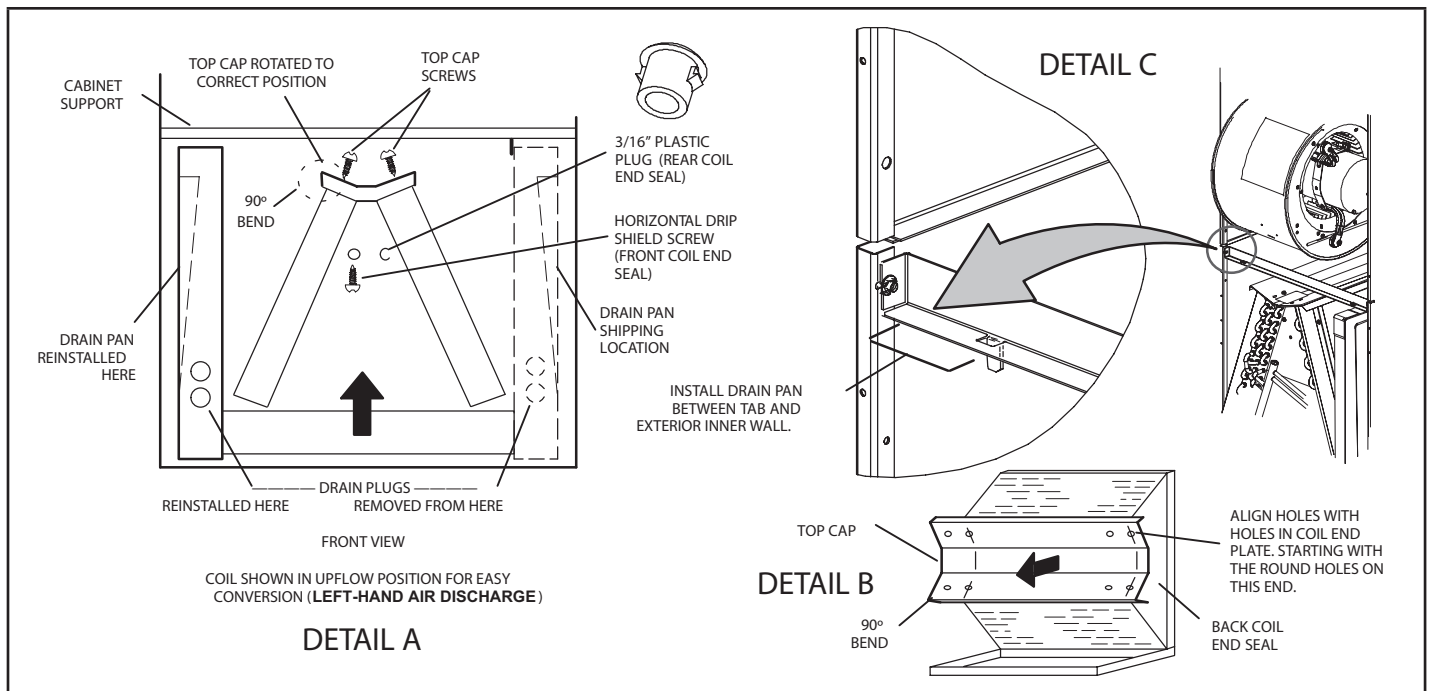

FIGURE 11. Field Modification for Left-Hand Discharge
- 4 - Remove screws from top cap. Remove horizontal drip shield screw located in the center of the back coil end seal as illustrated in figure 11.
- 7 - From the upflow position, flip cabinet 90° to the left and set into place. Replace blower assembly. Secure coil in place by bending down the tab on the cabinet support rail as illustrated in figure 11.